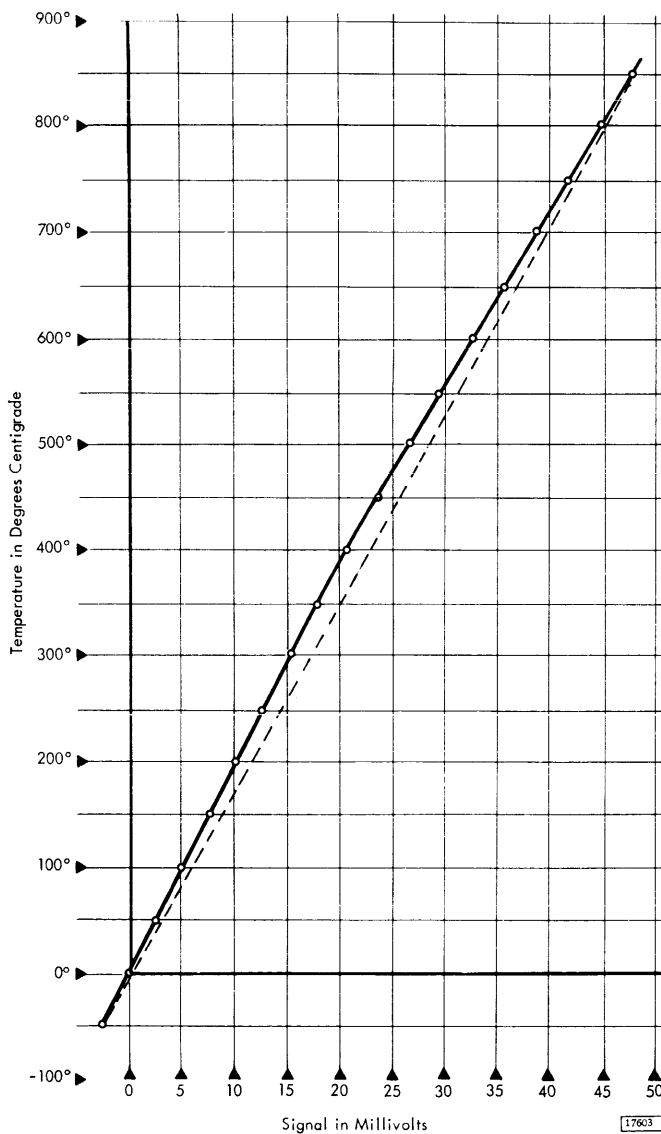

Figure 33.1. Iron-Constantan Thermocouple for  $-50^{\circ}$  C to  $+850^{\circ}$  C Range
1. Study the thermocouple temperature-to-millivolt curve and determine the number of segments or divisions that must be made to obtain the desired degree of accuracy. For example, the iron-constantan thermocouple curve shown in Figure 33.1 covers a temperature range of  $-50^{\circ}$  to  $+850^{\circ}$  C. This range may be divided into nine segments as